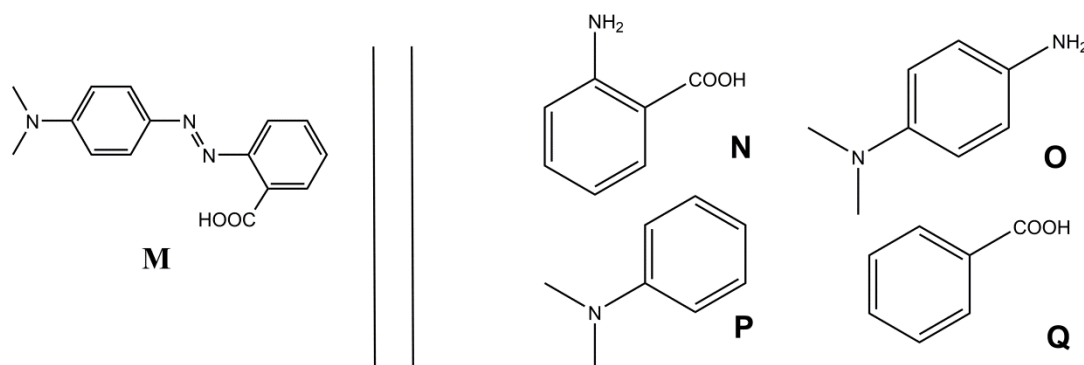

Fig. 1 – Possible reactants for the synthesis of **M**.
2. **M** can be synthesized in two steps from simple reactants (*Fig. 1*). **Choose** among the suggested reactants (**N** to **Q**) the ones that can provide **M** with very high regioselectivity. Sodium nitrite (NaNO_2) in cold aqueous hydrochloric acid is used as reagent for the first step of the synthesis.